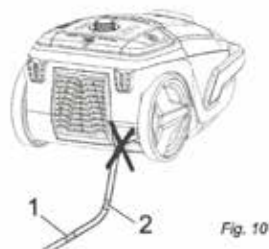
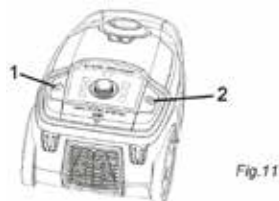

Fig. 10
Fig. 11
2. Pull out the power cord until the yellow marking is visible (Fig. 10/1).
If the red marking shows (Fig. 10/2) retract the cord by pressing the retract button to rewind the cable (Fig. 11/2) back to the yellow mark. Otherwise the power cord could be damaged. There is danger of an electric shock.
3. Switch on the vacuum cleaner at the on/off switch (Fig. 11/1).